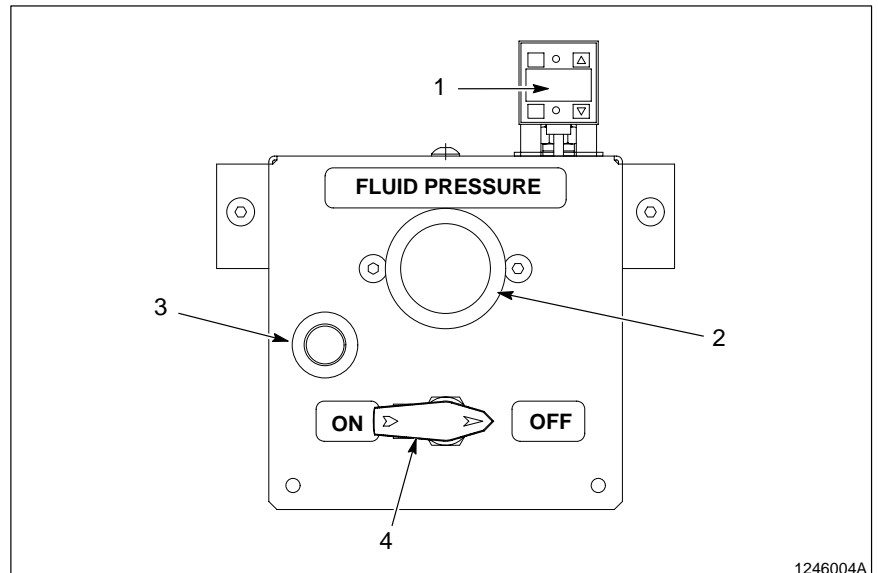

Fig. 4 Pressure Controller
See Figure 4. The fluid pressure controller is typically mounted in the workcell coating area. Maximum input air pressure is 7 bar (100 psi).
1. See Figure 4. Turn the pressure controller valve to the OFF position.
5. See Figure 4. Turn the pressure controller valve to the ON position and set the fluid pressure as desired.